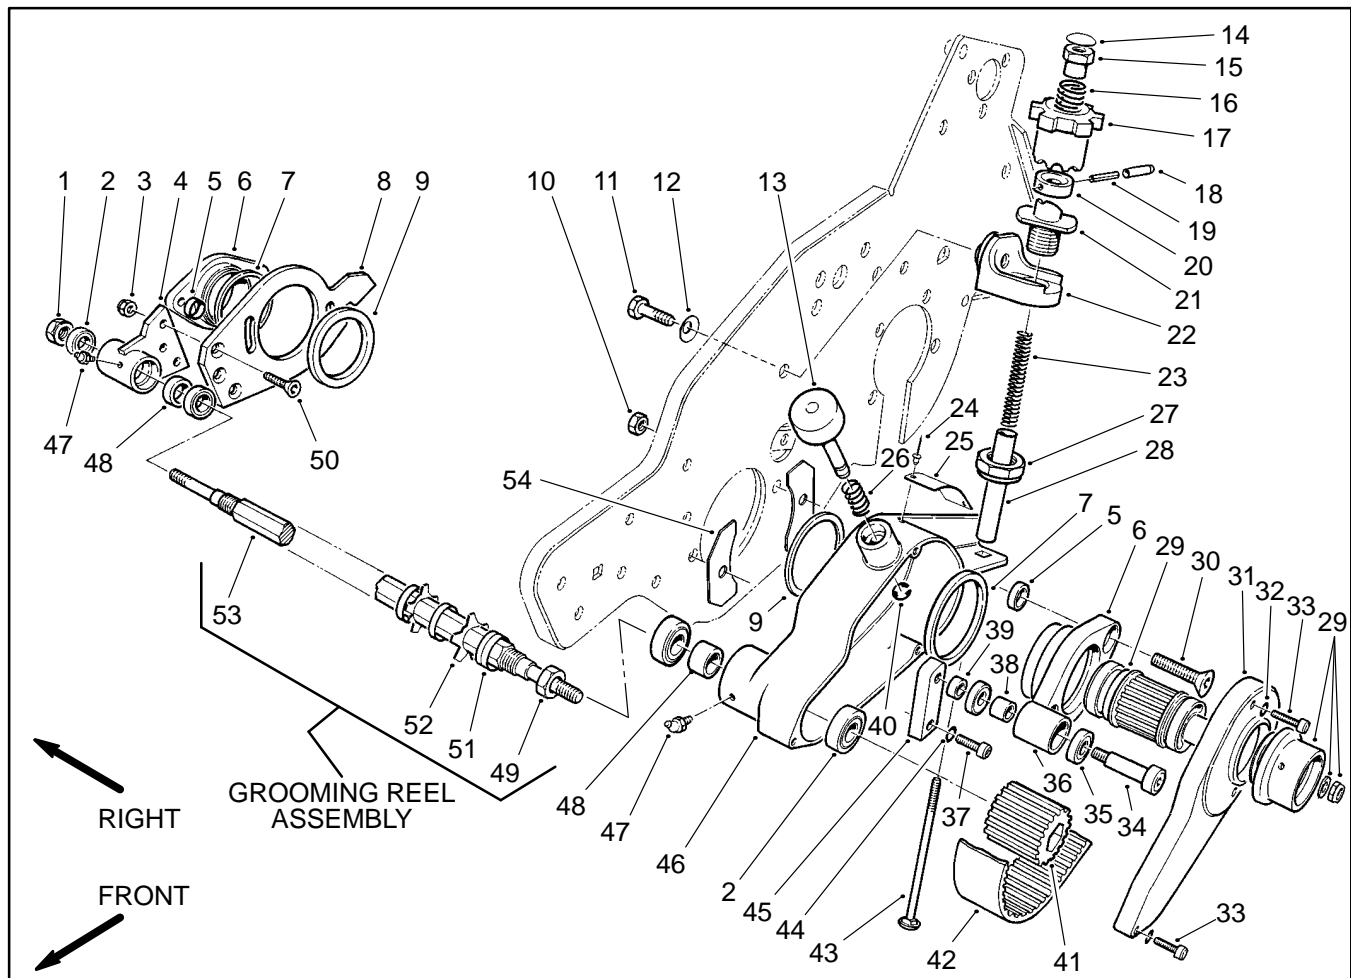

Figure 17
6. From the right side of the mower, remove the following (Fig. 17):
A. Remove lock nut (1) securing the shaft (53) to the bearing housing (4).
C. Remove cap screw (11) and belleville washer (12) (inside of frame) securing mounting block (22) to the mower frame (Fig. 17).
9. Remove the three socket head cap screws (33) and lock washers (32). Remove belt cover (31) from the belt drive housing (46) (Fig. 17).
10. In the belt drive housing (46), disassemble the following parts (Fig. 17):
A. Loosen socket head cap screw (37) and idler pulley (36), then remove drive belt (42) from the driven pulley (41).
14. Remove grooming reel from the belt drive housing (46) (Fig. 17).
16. Remove adapter (6), bearing (7), both spacers (5) from the belt drive housing (46) (Fig. 17).